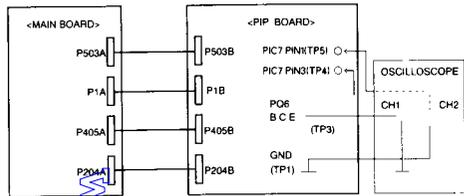

Figure 13
- Connect each pin as shown in figure 13 and supply power source to the TV receiver.
- Connect each pin as shown in figure 13.